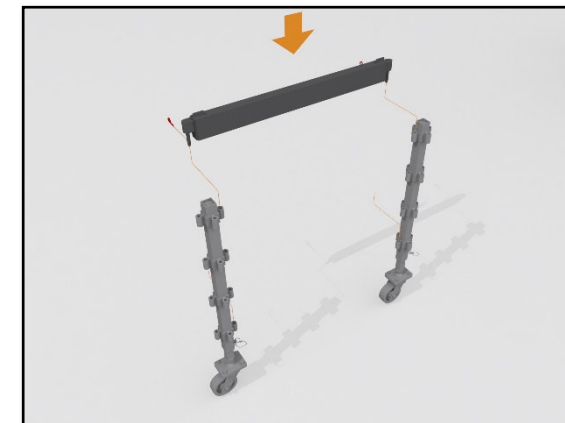

Fig. 19 – Beam onto Node Post
9.1.5.1 Stand two Node Posts upright and engage the two connection each end of the Beam into the top holes of the Node Post. *Fig. 19 – Beam onto Node Post*